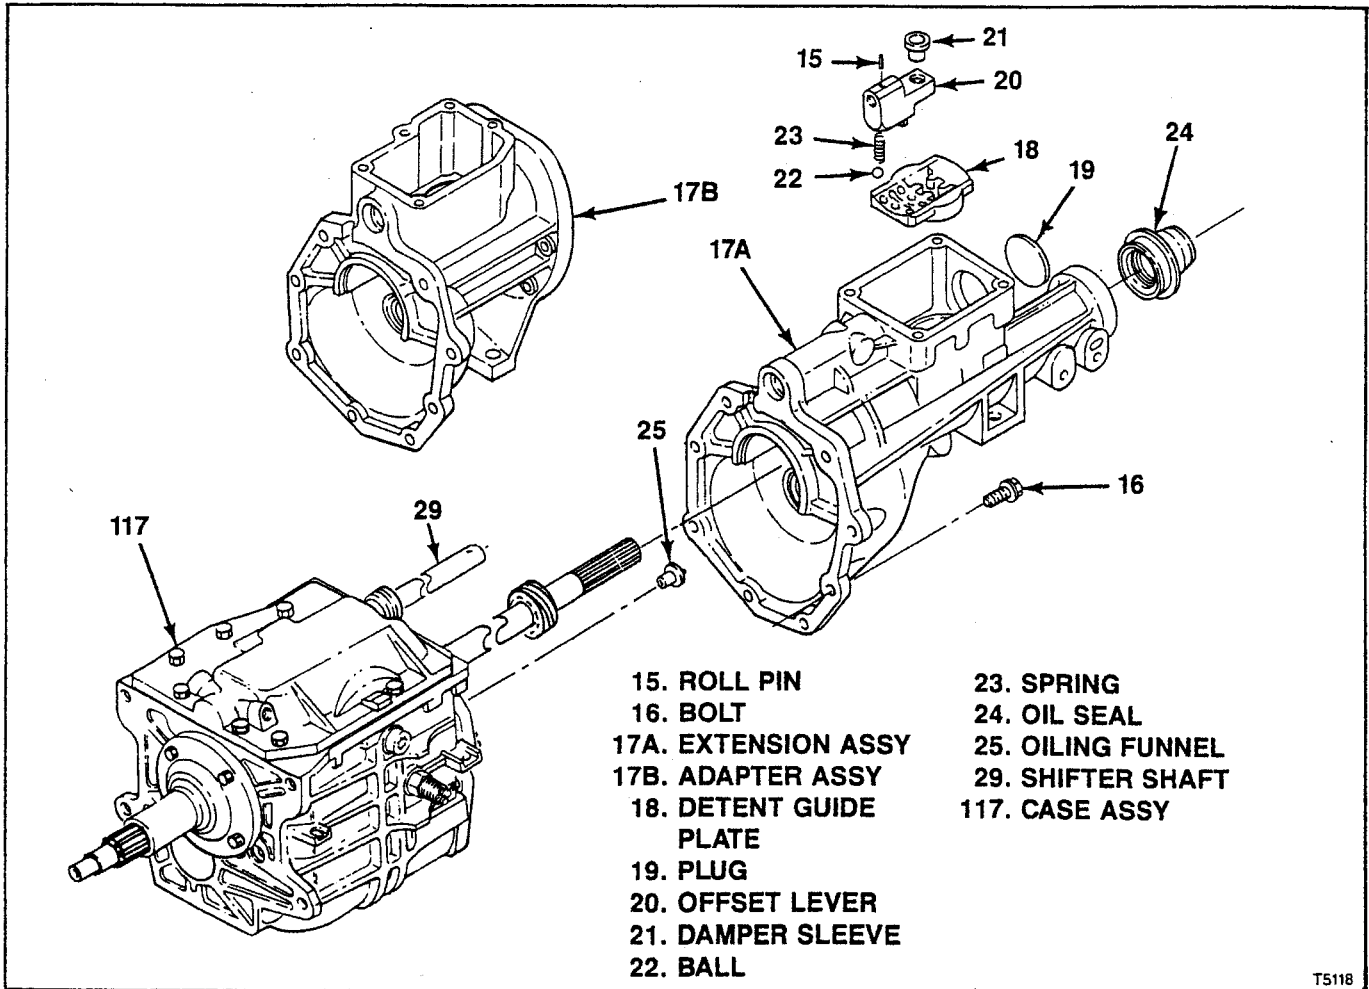

Figure 6-19. T5 WC Extension or Adapter
6-18. INSTALLATION OF T5 WC EXTENSION OR ADAPTER. With case cover installed, proceed as follows (see figure 6-19):
1. Install boot (4) if replaced.
3. Position control lever and housing assembly (3A, 3B or 3C) on extension (17A) or adapter (17B) engaging inside end of lever in damper sleeve (21, figure 6-19) installed in offset lever (20, figure 6-19).
4. Install screws (2). If control lever and housing assembly (3C) is used, also install screws (2A). Torque all screws to 13 lb-ft (17 Nm).
f. Install fill and drain plugs (1) and torque to 20 lb-ft (27 Nm).